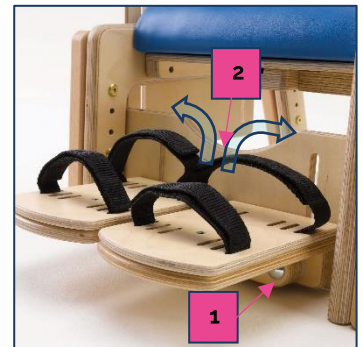

Fig. 4.2.7-1
1. The height of the folding footrest can be adjusted by first loosening the two handwheels located on the back of the kicking board (see Fig 4.2.7-1 Ref 1).